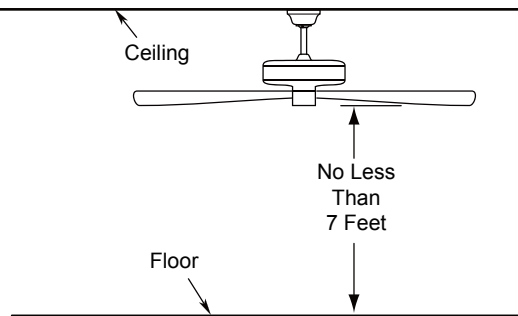

Figure 2
- 2. Remove the hairpin clip and clevis pin from the bottom of the downrod. Retain the pin and clip for reinstallation in Step 4. (Figure 2)
The fan must be hung with at least 7' of clearance from floor to blades. (Figure 2)
To avoid possible electrical shock, be sure electricity is turned off at the main fuse box before wiring. (Figure 2)